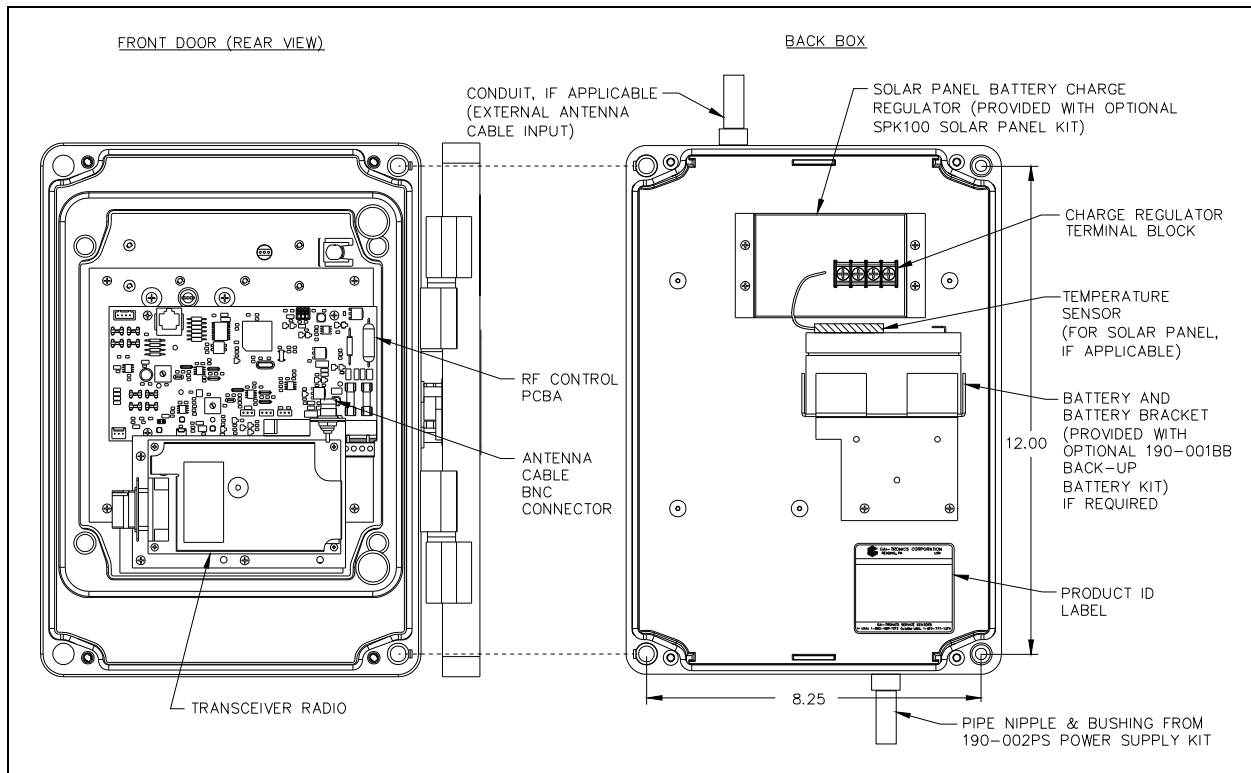
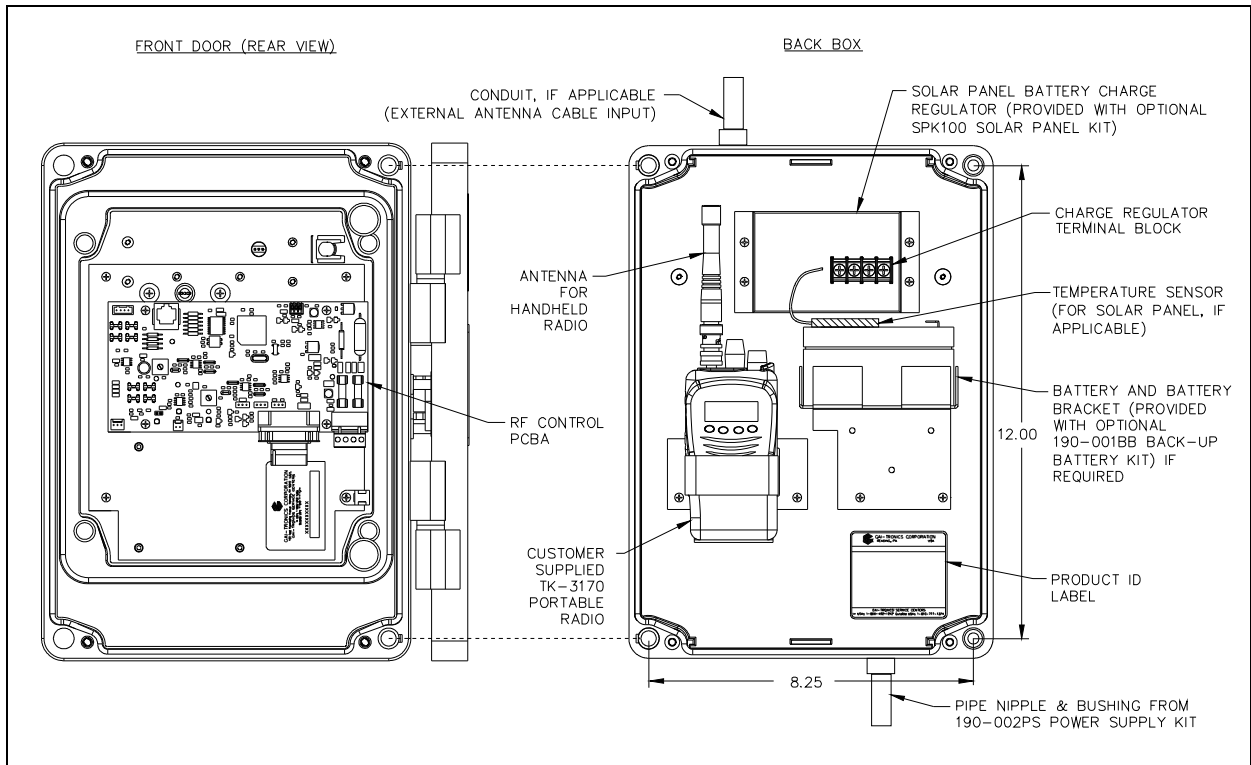

Figure 5. Model CB194-001 and CB194-002 Installation Details
Figure 6. Model CB194-003 Installation Details
5. Refer to Figure 5 and Figure 6 for the mounting hole dimensions for wall-mounting applications. Secure the back box to its desired location. Refer to the Model 230-001 Pole Mounting Kit instructions for pole-mounting applications.